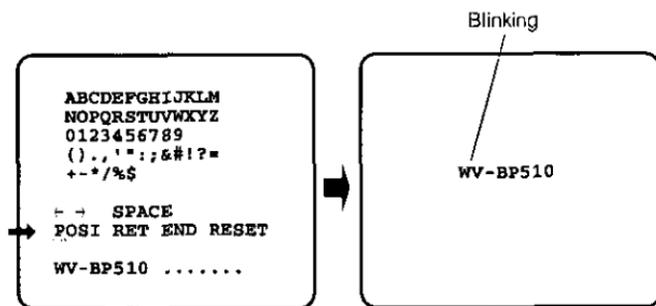

Fig. 28
- Move the character cursor to the "POSI" position and press the Set Switch (9) to display the ID position menu as shown Fig. 28. The characters of the camera ID start blinking to identify the selection of the positioning menu.